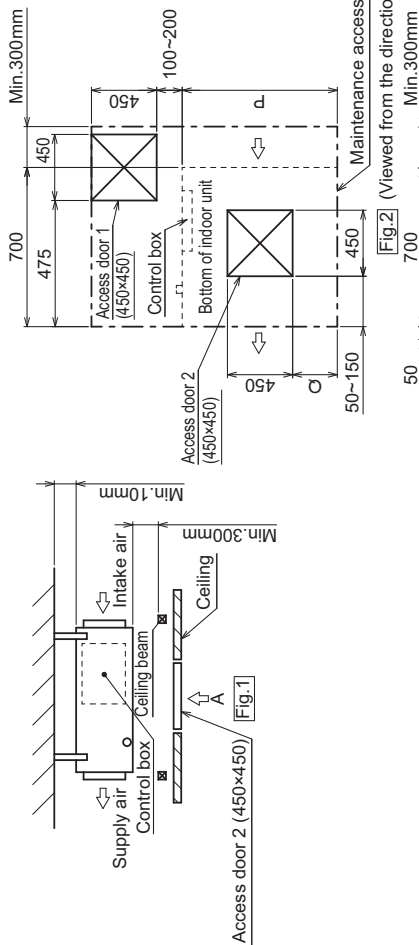

Fig.2 (Viewed from the direction of the arrow A)
- Create access door 1 and 2 (450×450mm each) as shown in Fig.2.
(2) When a space of less than 300mm is available below the unit between the unit and the ceiling.